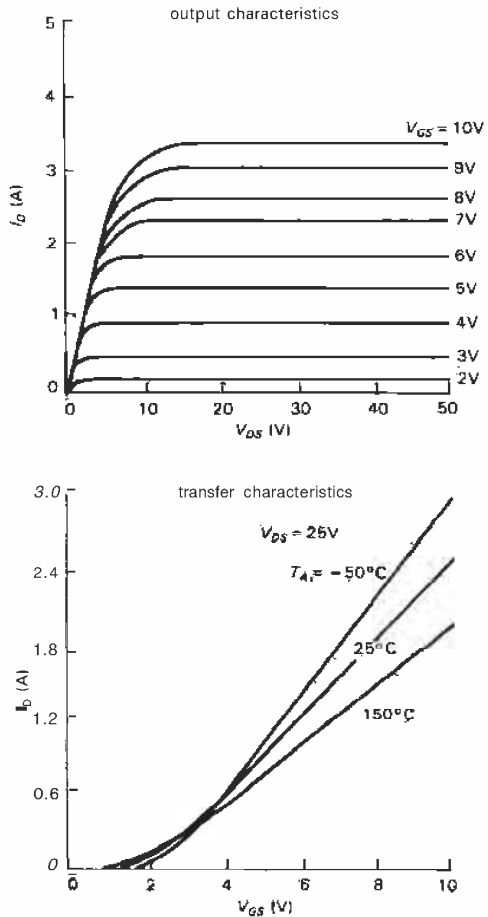

Figure 3.68. Drain characteristics of an n-channel low-threshold MOSFET (type TN0104).
1.5 volts (max)," which sounds fine until you read the fine print ("at $I_D = 1\text{mA}$ "). It takes considerably more gate voltage than $V_{GS(th)}$ to turn the MOSFET on fully (Fig. 3.68). However, the circuit will probably work OK, because (a) a HIGH TTL output is rarely less than +3 volts, and typically more like +3.5 volts, and (b) the TN01 further specifies " $R_{ON}(typ) = 5\Omega$ at $V_{GS} = 3\text{V}$."